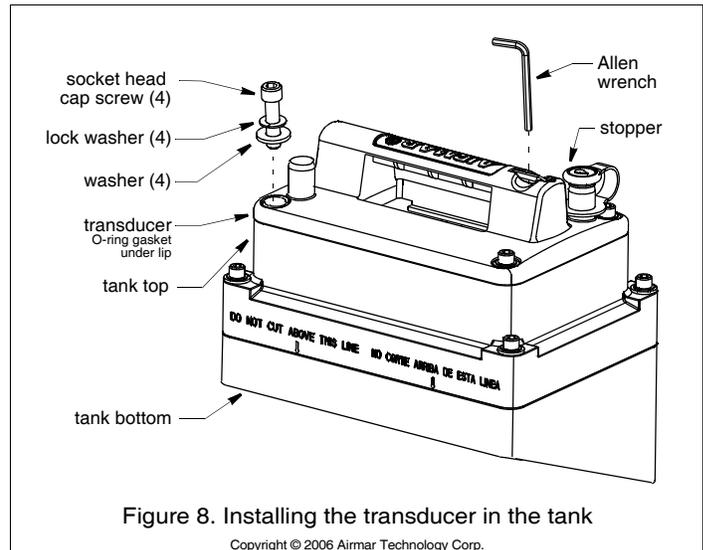
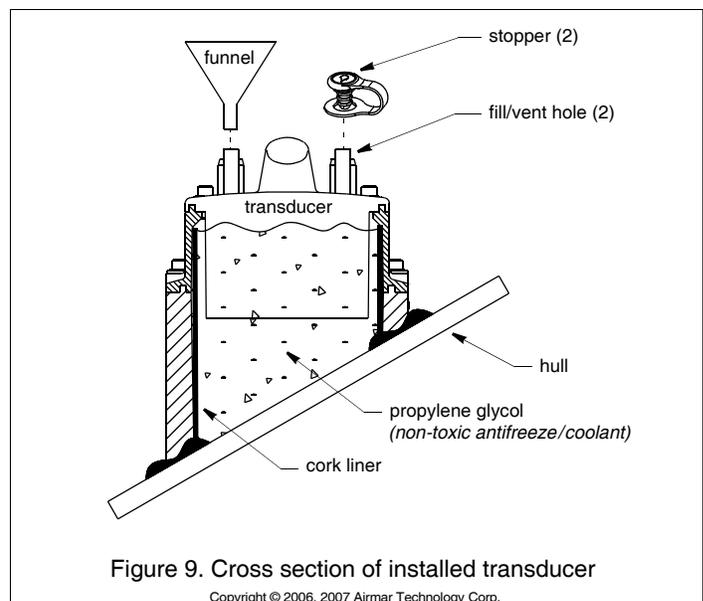

Figure 8. Installing the transducer in the tank
Figure 9. Cross section of installed transducer
5. If the tank is being installed in two parts, reattach the two sections now (see Figure 8). Be sure the O-ring gasket is in place around the lip and lubricated. Screw the two halves together using the socket-head cap screws, lock washers, and washers supplied. **Do not over tighten.**
4. Grasp the transducer by the handle and lower it into the tank (see Figure 8). There is no fore or aft to the transducer; it fits either way.
6. Top-off the propylene glycol in the tank. However, allow a small air space to accommodate expansion with temperature changes. Using the funnel supplied, pour the fill-liquid through one of the fill/vent holes until the tank is full (see Figure 9). The second hole will act as a vent. (Alternately, the tank can be filled using standard diameter tubing secured with a band clamp.) Attach the stoppers supplied and plug both fill/vent holes (see Figure 8). To ease sliding, lubricate the stoppers with the fill liquid. Tie the funnel to the handle to keep it near-at-hand.